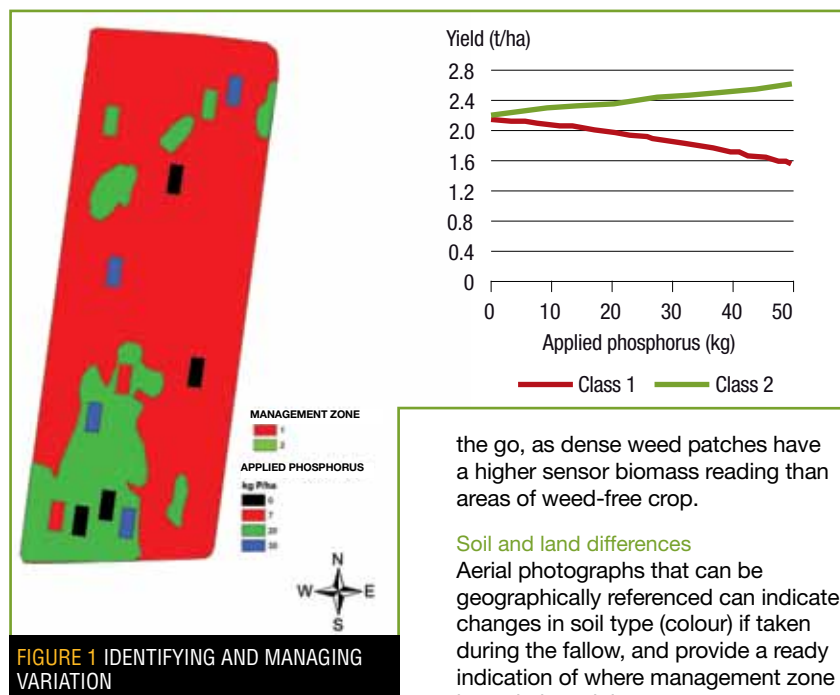

FIGURE 1 IDENTIFYING AND MANAGING VARIATION
If grain yield consistently and/or predictably varies across an area, the area can be zoned according to production potential (for example, low, medium and high) and variable rate (VR) inputs applied (see Figure 1).